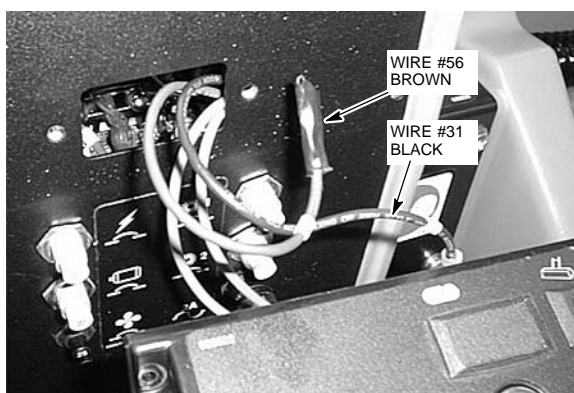

Fig. 5
9. Locate pump accessory wires #56 brown and #31 black as shown (Fig. 5). The wires have black tape covering the terminals. Remove tape from terminals.